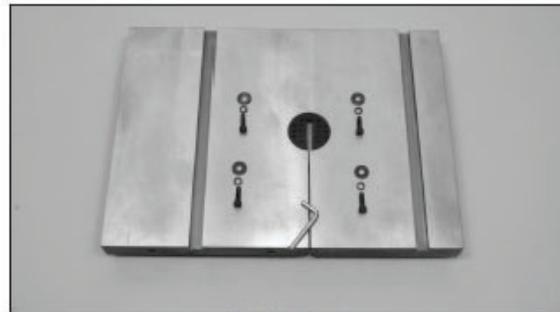

FIGURE 1
1. Remove the Table Leveling Pin from the front of the table. This metal pin keeps the two sides of the table level at the slot area. **Fig. 1.**